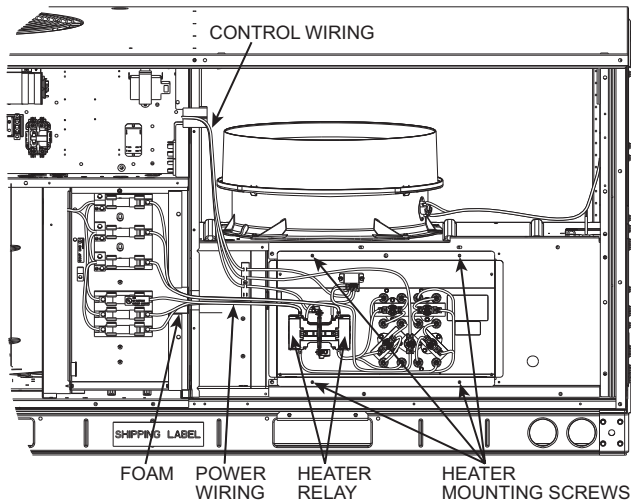
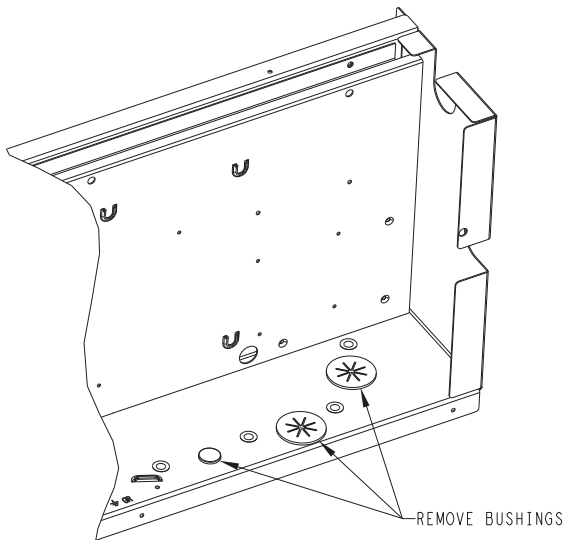
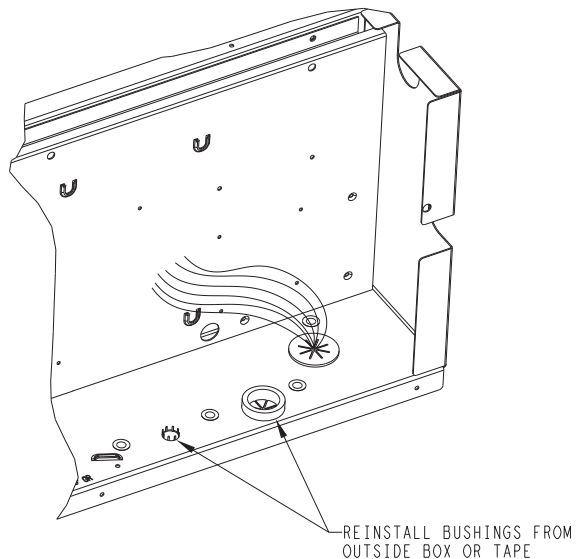

Fig. 3 — Typical Single Point Kit Installation
Fig. 7 — Control Box - Bushings to Remove
Fig. 8 — Bushings Replaced from Outside Control Box
6. Install the electric heater module and connect heater power conductors to single point box or main unit control box per appropriate connections figure. (See Appendix A on page 16.) See Fig. 3 for typical installation.
7. All bushings in the area of the control box where the single point box (SPB) mounts, must be removed prior to securing the SPB to the control box. (See Fig. 7.) Also, for units installed in the snow belt, all unplugged holes in the bottom of the control box which are not used must be plugged before installing the SPB. Use foil tape or reinstall the bushings from the outside of the control box prior to securing the SPB. (See Fig. 8.)
8. Remove the single point box cover. Secure single point box to the underside of the control box with the 2 screws provided. (See Fig. 3.) Re-install bushing on the SPB tap conductors. (See Fig. 8.)
5. Route power wires from heater module through the foam bushing in the center partition and into the single point box. (See Fig. 3.) Connect to terminal block or fuse blocks per schematics in Appendix A or B. See Tables at beginning of each Appendix to identify the appropriate figure. All heaters are single bank heaters except CRHEATER327A00, 329A00-332A00, 337A00-338A00, and 341A00 which are dual bank heaters. These heaters will be wired as two heaters (i.e., 6 leads). Fusing is shown pictorially on the unit wiring schematic label. See Fig. 14 and 15.